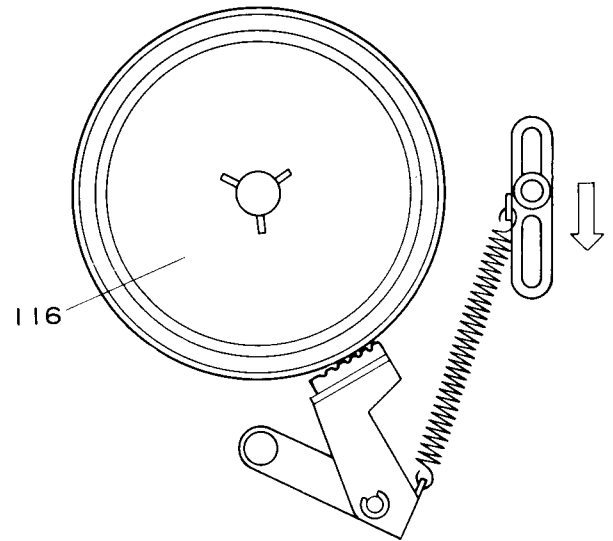

Fig. 13
*** SUPPLY REEL SPINDLE (Refer to Fig. 13)**
- (1) Put a 7-inch test reel on the supply reel spindle.
- (2) Hook a tension gauge on the reel and pull it in the direction at right angle to the center of the reel.
- (3) If the set is normal, the value is 240 ± 60 g.cm in clockwise and 450 ± 150 g.cm in counterclockwise.
- (4) If the value is out of this range, adjust it as follows.
- 1) When the value is lower than the normal value, move the adjusting plate (067) in opposite direction to the arrow in Fig. 13.
- 2) When it is higher than the normal value, move the adjusting plate (067) in the arrow direction as shown in Fig. 13.